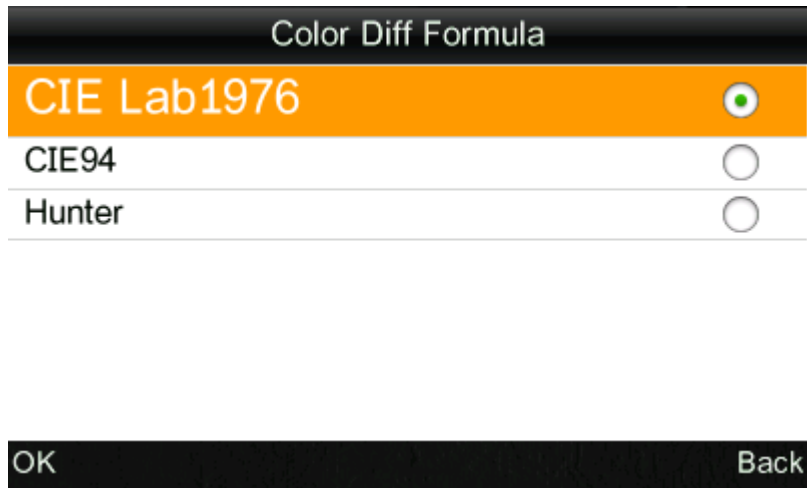

Figure 52 Color Diff Formula
- d) Select “Settings” - “Color Diff Formula” to enter an interface shown in Figure 52. You can select the needed color difference formula through this interface. After selecting and saving this formula, the instrument will calculate the color difference according to the selected formula when measuring.